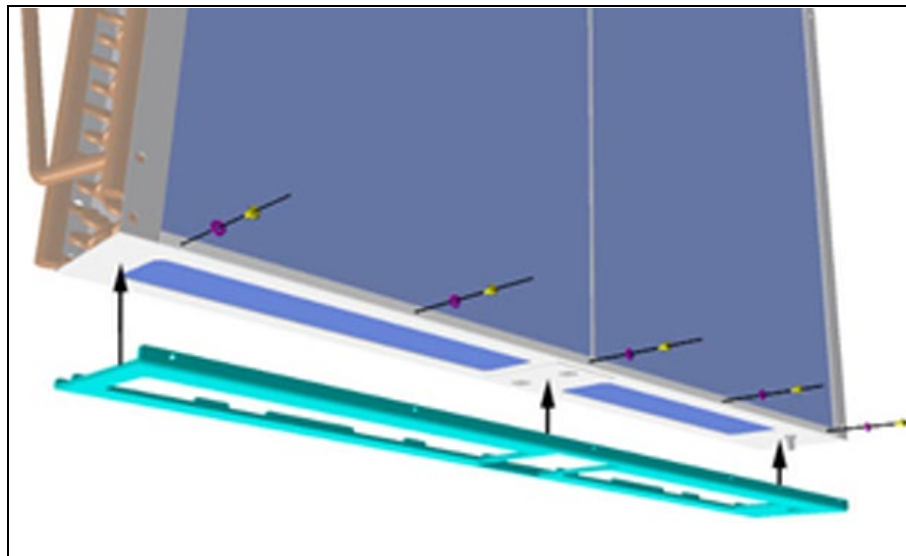

Fig.16
- Using a Phillips screwdriver, remove the five (5) Phillips head screws that hold the condenser plastic slider exterior (door side) part to the condenser (Fig.16). Do not remove the nine (9) interior (fan side) screws yet.